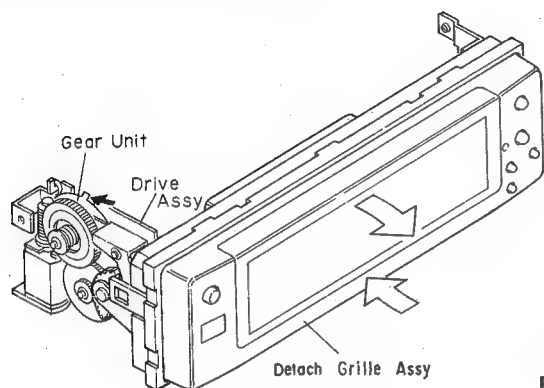

Fig.6
- 1.While holding the tab of gear unit at locations indicated by black arrow.(Fig.6)
- 2.Press the detach grille Assy at locations indicated by white arrows.(Fig.6)